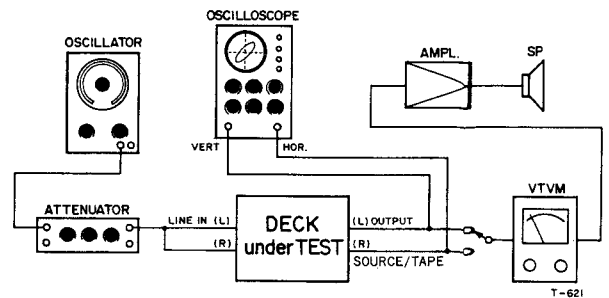

Fig. 10-11 Test Connections for Recording Check
7. Connect a VTVM to the OUTPUT jack and an AF oscillator to the LINE IN jack. (Fig. 10-11). Set the oscillator to 10 kHz at -18 dB (97 mV).